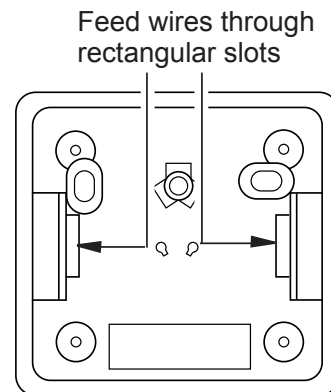

Figure 22 - Back View of Thermostat Base
5. Feed electrical wires through rectangular slots on each side of base (see Figure 22).